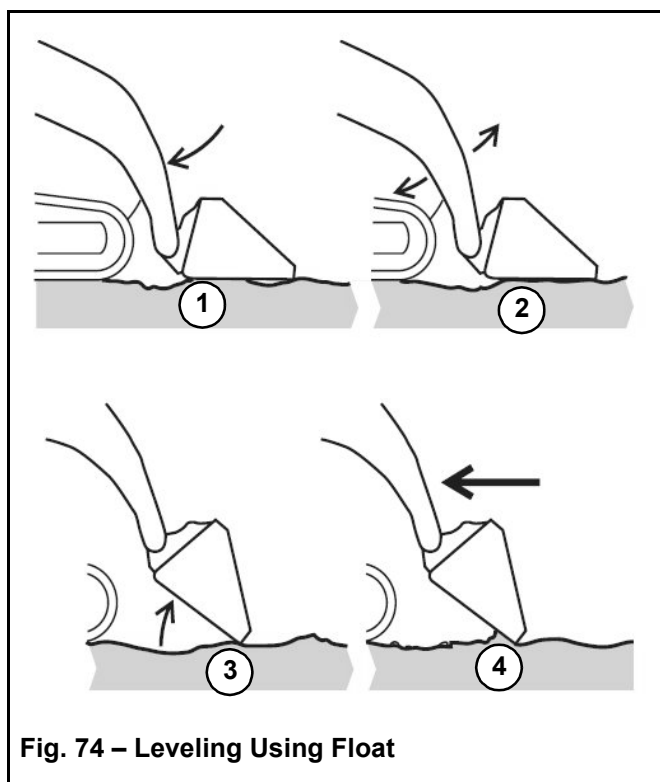

Fig. 74 – Leveling Using Float
1. Lower the bucket to the ground (Fig. 74).
3. Tilt the bucket forward so it stands on the cutting edge (Fig. 74).